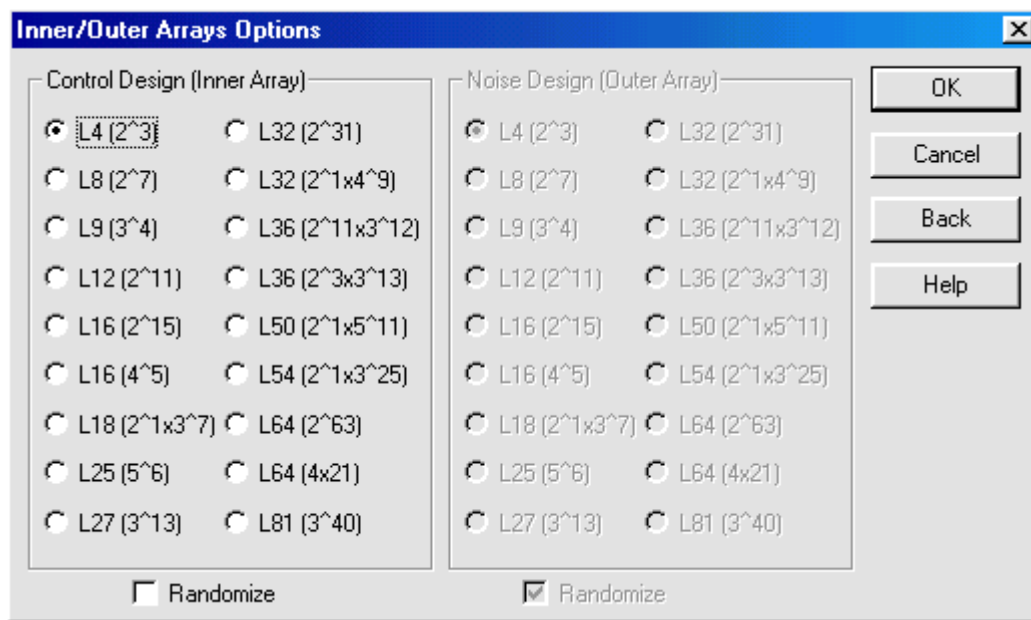

Figure 7-3. Inner/Outer Arrays Options Dialog Box
5. Click OK to display the Inner/Outer Arrays Options dialog box shown in Figure 7-3.
Use the *Inner/Outer Arrays Options* dialog box to change the design. See Figure 7-3 for an example of this dialog box